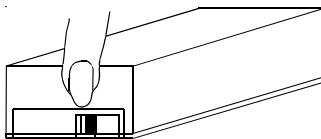

Figure 1: Removing the Cover
- Remove the cover of the DS7461i. Press in and up with your thumb and nail directly above the lip of the DS7461i (refer to *Figure 1*).